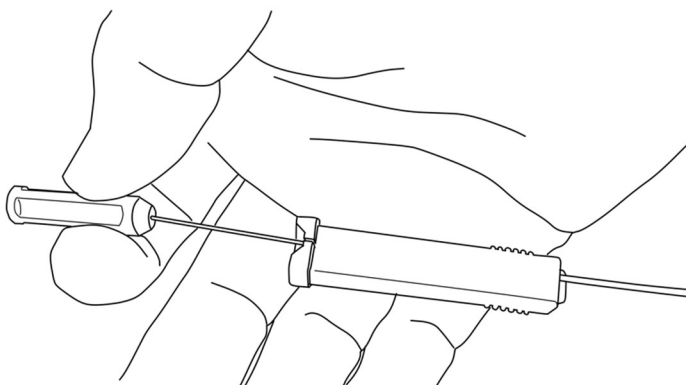

Figure 10.6: Lead steering with the intraoperative cable connected to the lead.
1. For lead steering, hold the intraoperative cable and turn the stylet handle between thumb and index finger (see Figure 10.6).